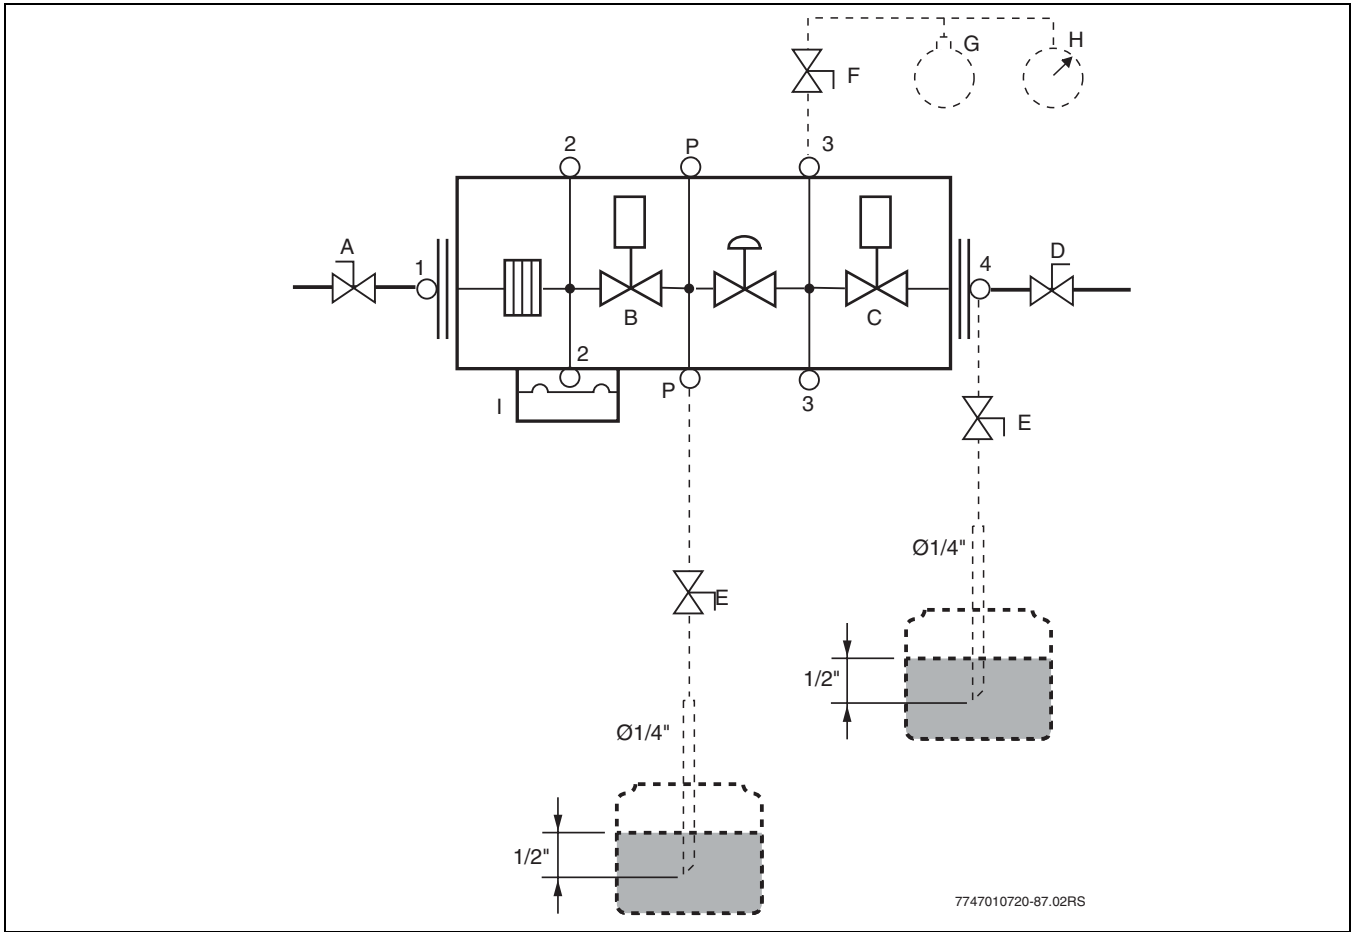

Fig. 72 Testing apparatus set-up for gas valve leak testing
- Make sure that the manual isolating valve E on the testing apparatus (→Fig. 72, page 70) is turned off.
- To test the 1st solenoid valve (B), remove the blanking plug P from the gas valve and fit a testing nipple.
- Turn on the isolating valve A to pressurize the 1st solenoid valve (B).
- To test the 2nd solenoid valve (C), remove the blanking plug from testing point 4 on the gas valve outlet flange and fit a testing nipple.
- Remove the blanking plug from testing point 3 on the gas valve and fit a testing nipple. Connect the hand pump G, which is part of the testing apparatus, and connect a pressure tester H (→Fig. 72, page 70). Carefully build up a testing pressure of 7 inches W.C. using the hand pump H and then turn off the isolating valve F on the testing apparatus.